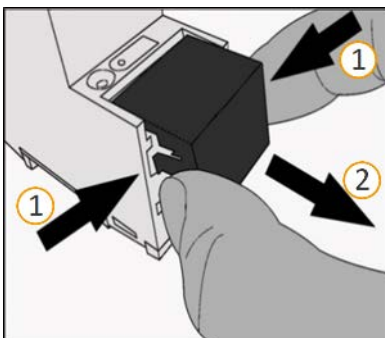

Figure 28: Removing the cover cap
1. Gently press in the cover cap at the side (see figure 28, item 1).
2. Pull off the cover cap upwards (see figure 28, item 2).